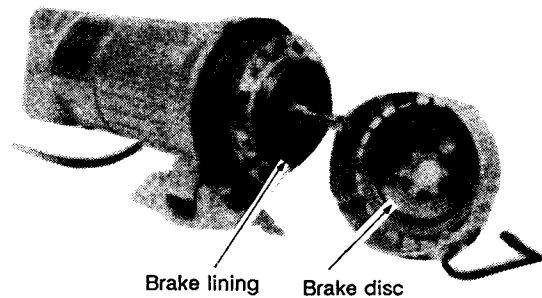

Fig. 35 After Bracket Removal
- 5) Utilize the clearance of bracket and remove it. Brake assembly can be disassembled as a whole. (Fig. 35)